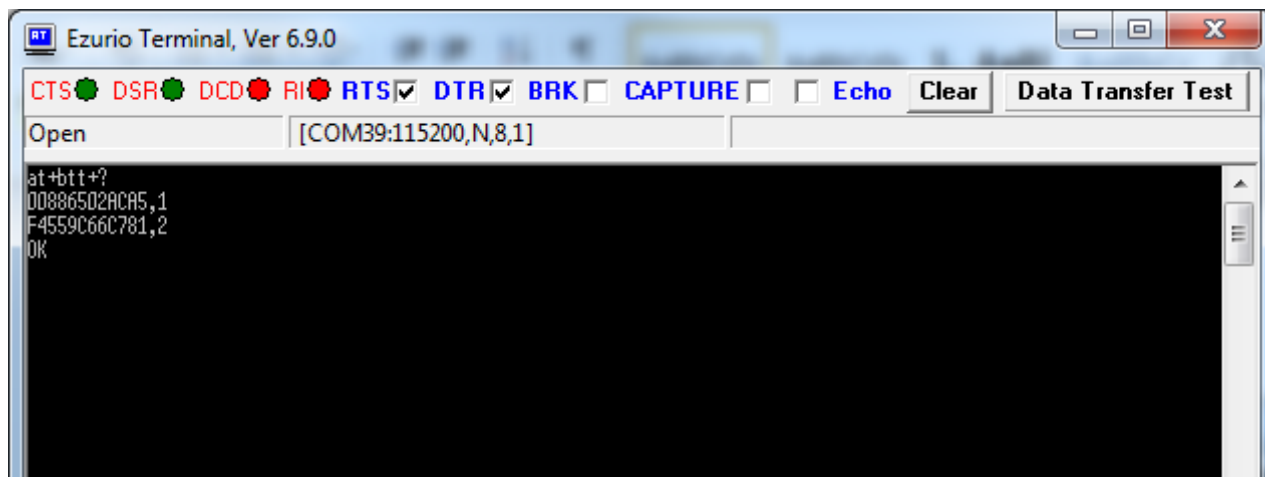

Figure 6: AT+BTT+ command
This returns a list of connected devices with a number indicating if they are Apple (1) or otherwise (2). This list is shown in Figure 6.